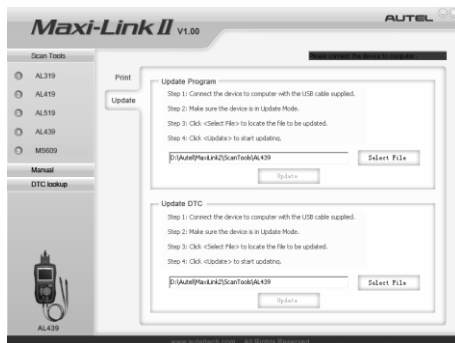

Figure 3.12
- 2) Run the MaxiLink Tool Kit in your computer. (Figure 3.12)
- 5) Select the programs to be updated in your computer. There are two types of programs: operating system and DTC library. (Figure 3.12)